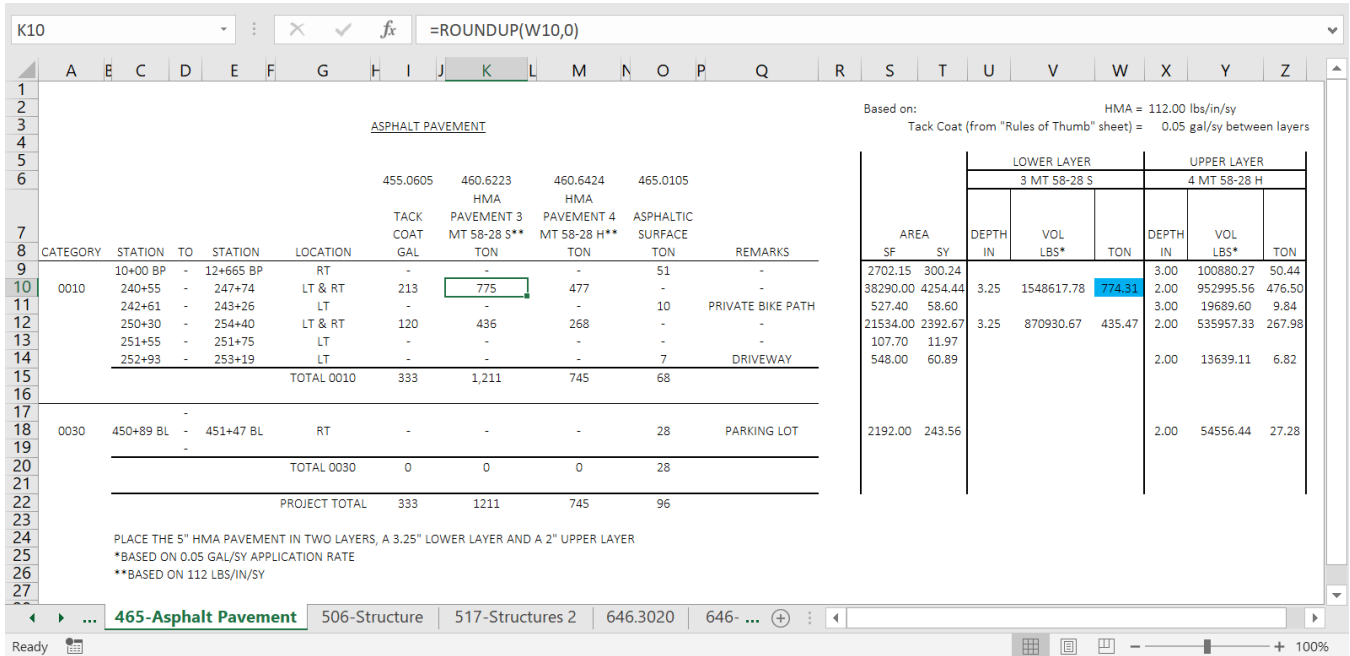
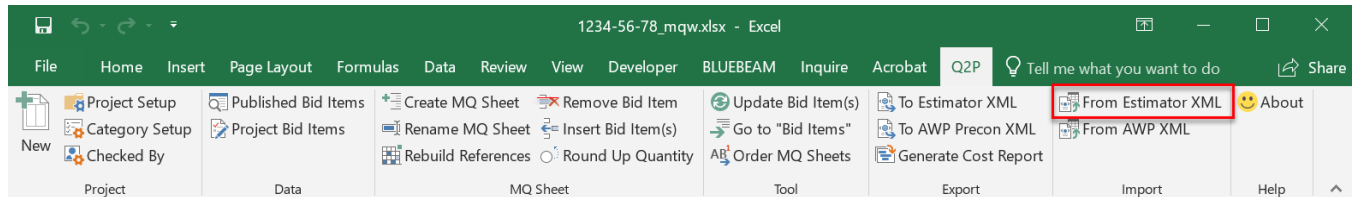

Figure 10.6 Typical computations.
Figure 11.5 “From Estimator XML” command.
Being able to have the quantity calculations done right alongside the location data (Figure 10.6) is one of the advantages of using Q2P to create MQ sheets.
2. In Q2P, select **Q2P > Import > From Estimator XML** (Figure 11.5) to bring up the “Import Estimator XML file” dialog box (Figure 10.6).